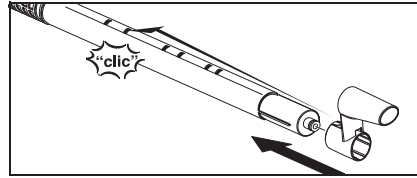

Figure 2
- Hold the unlocking button down, and push the parking device (G3) on an extension tube (G1) until it locks into place in the second aperture. The parking device must lock into place when you release the unlocking button (see Fig. 2).